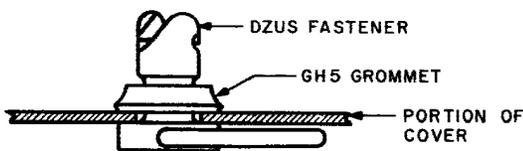

Fig. 5 – Mounting GH5 Grommet on Fastener Stud (Wide Diameter Against Cover)
5.02 Replace the fastener stud as follows. Where the hole in the cover is not large enough to permit the insertion of the fastener, enlarge the hole in the cover using a 3/8-inch drill. Insert the new fastener in the cover from the front of the cover. Insert the fastener through the hole in the cover and then rest the head of the fastener on a hard surface. Place a GH5 grommet over the cam end of the fastener stud so that the wide diameter of the grommet rests on the cover as shown in Fig. 5. Place the